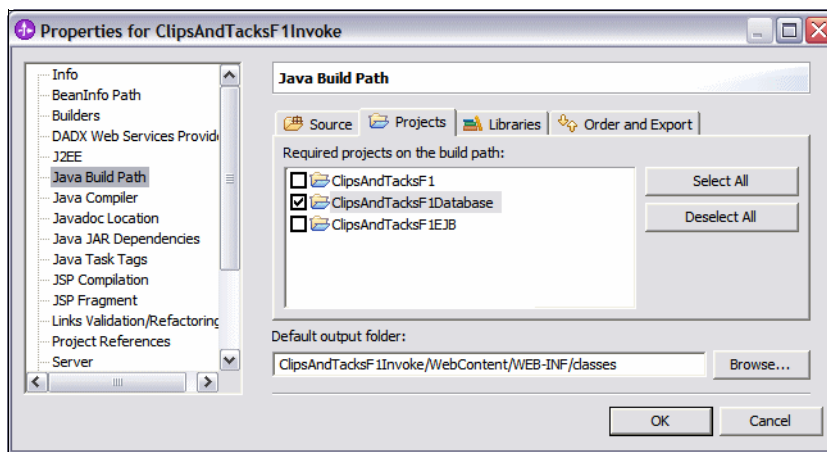

Figure 10-47 Add ClipsAndTacksF1Database to the Java build path
- Select the `ClipsAndTacksF1Database` project and then click *OK* (Figure 10-47).